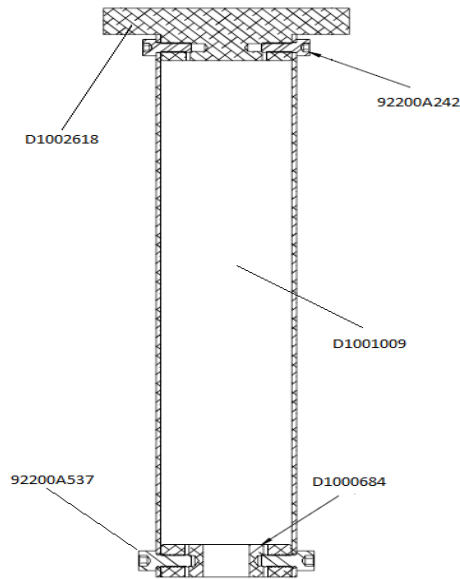

Figure 4: Lo Tube Assembly
1. Insert D1000684 - SLC TUBE LOWER MOUNTING PLATE into D1101889 - ITM ELLIPTICAL BAFFLE LO TUBE, see Figure 4. Align with *larger* fastener holes.
2. Insert D1002618 - SLC TUBE LOWER CONNECTOR PLATE into D1101889 - ITM ELLIPTICAL BAFFLE LO TUBE, see Figure 4. Align with *smaller* fastener holes.